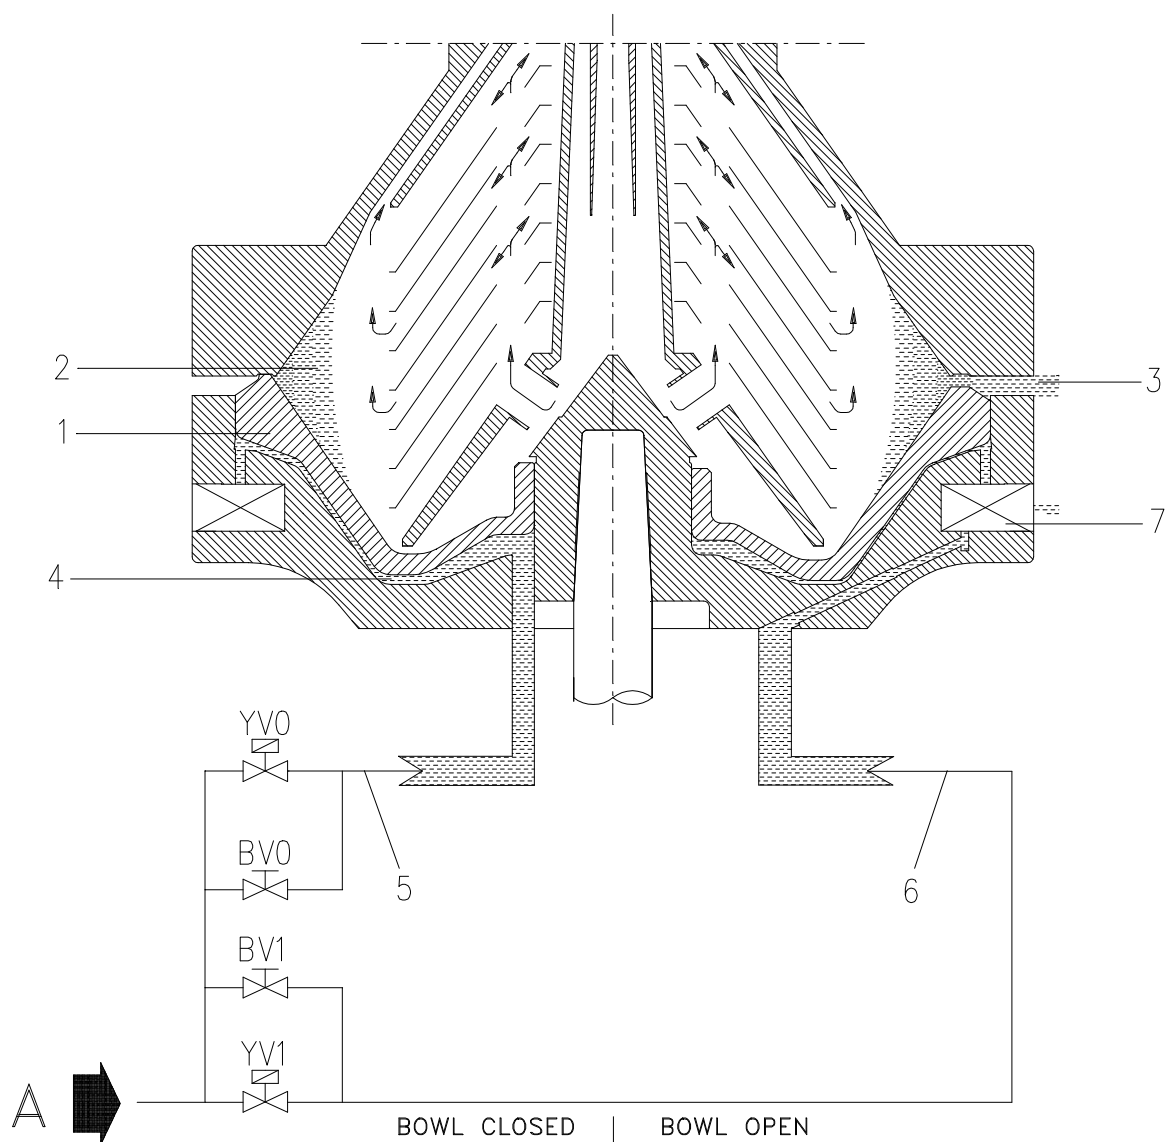

Figure 6.34
The bowl (fig. 6.34) is provided with a ram (1) which periodically opens discharge holes (3) on the periphery of bowl, draining off the solids (2) accumulated during the separation. This ram is driven downward by the pressure of processed product and upward by operating water. When chamber (4) is filled with water, the ram is in closed position (up); when chamber is partly empty, the ram goes to position of opening (down). The filling and emptying of chamber (4) is obtained through two water pipes intercepted by solenoid valves:
- pipe (5) (solenoid valve YV0) for closing water, through which water fills up moving ram chamber (4);
- pipe (6) (solenoid valve YV1) for opening water, through which the partial emptying of chamber (4) takes place. Opening water acts on bowl valve (7) causing the opening of drain hole of chamber (4).